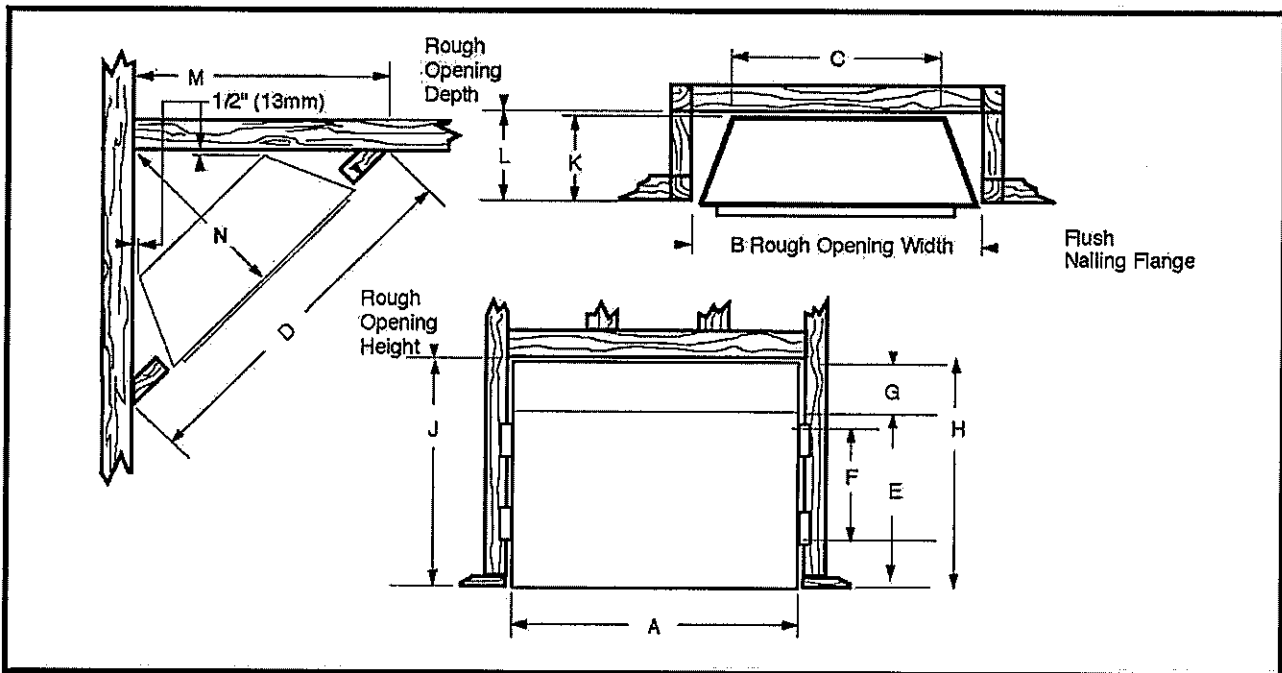

Fig. 1 Fireplace specifications and framing dimensions.
1. Choose fireplace location and framing as show in Fig.1.